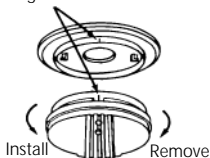

FIGURE 7
6. If you have finished all the WIRING, BATTERY INSTALLATION AND TRIM RING MOUNTING STEPS, you can install the alarm on the trim ring. Alignment marks are provided on the side of the alarm and on the trim ring (see figure 7).
7. Install the alarm on the trim ring with the indicating marks aligned and rotate the alarm in the direction of the "ON" arrow on the cover until the alarm snaps in place (see figure 7).
To replace the battery, remove the alarm from the mounting plate by rotating the alarm in the direction of the "OFF" arrow on the cover (see figure 7).